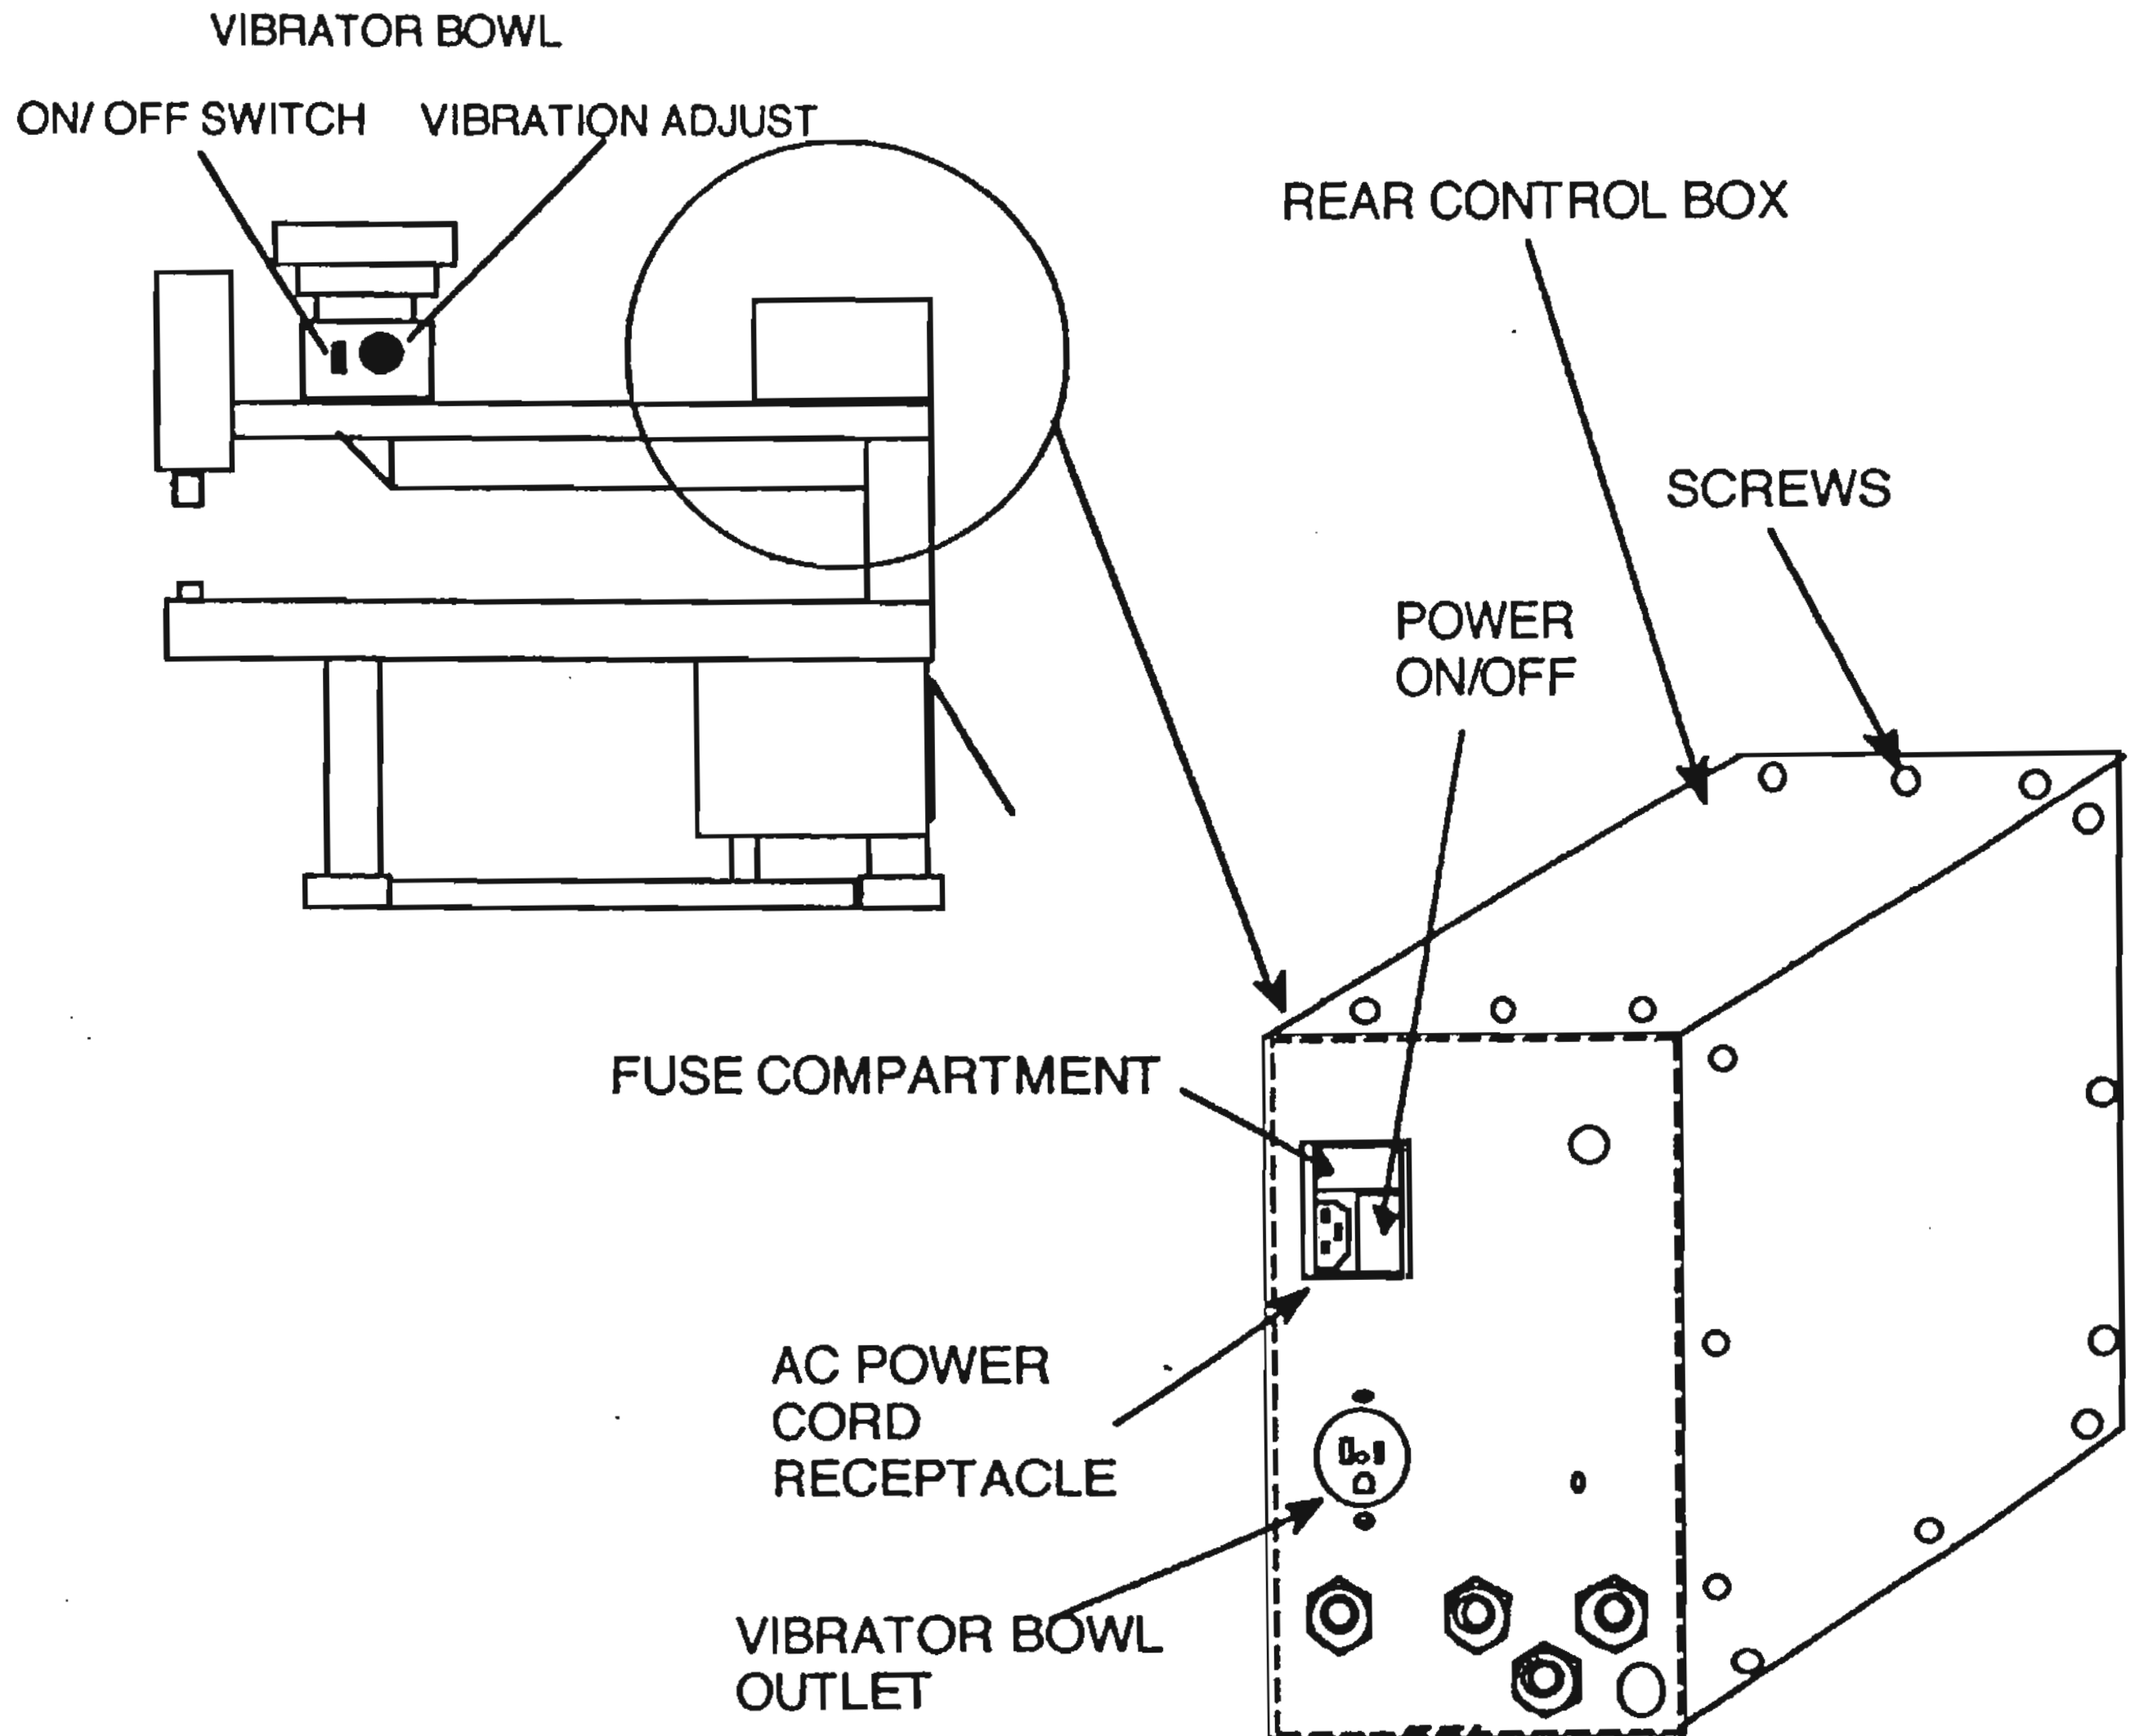

Fig 3-4
1. Refer to **FIG 3-4**. Locate 120 VAC line cord on front panel of rear control box. Box is at top rear of machine. Plug cord into a nearby 120 Volt AC outlet.
3. Turn "ON" power switch on the Rear Control Box. **See Fig. 3-4.**
5.310. FUSE REPLACEMENT - POWER ENTRY MODULE Fig 3-4.